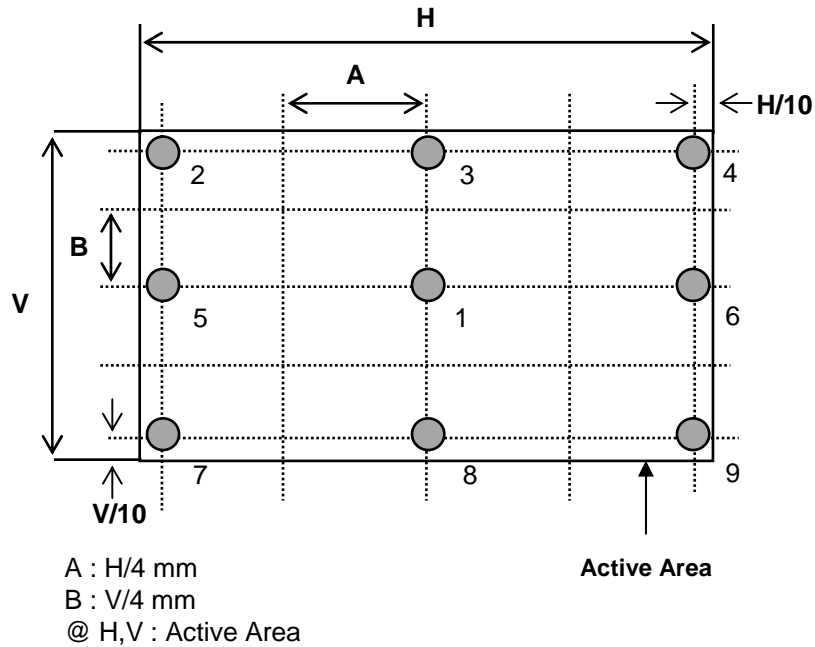

FIG. 2 Measure Point for Luminance
2. Surface luminance(L_w) is luminance value at center point(P1) across the LCD surface 50cm from the surface with all pixels displaying white. For more information see FIG 2.
For more information see FIG 2.